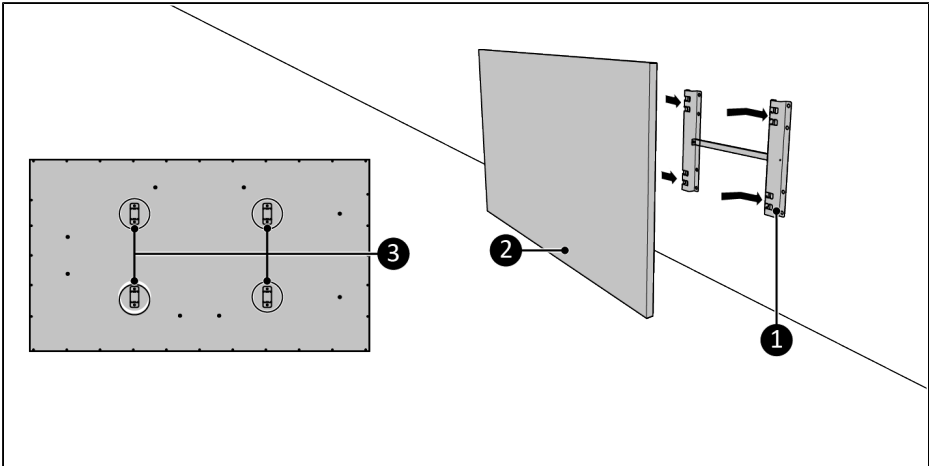

Figure 11.
5. Place the device brackets (Figure 11, pos. 3) over the wall bracket (Figure 11, pos. 1).
6. Slide the device (Figure 11, pos. 2) into the openings of the wall bracket (Figure 11, pos. 1).